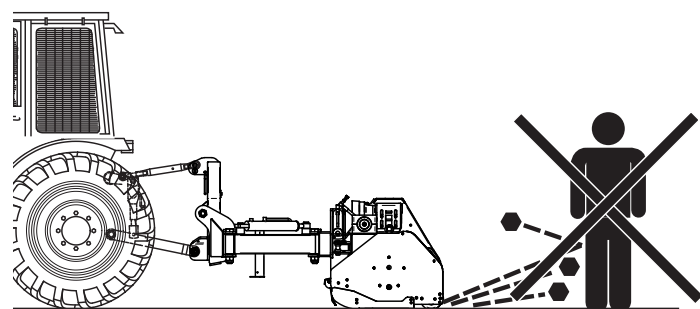

Fig. 24
- e) ensure that no other person is in the vicinity of the working area of the shredder (Fig.24);